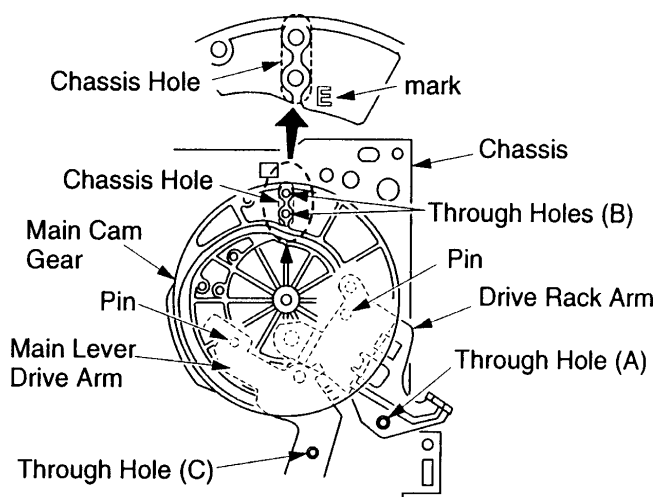

Fig. 7 - Main Cam Gear/Drive Rack Arm Alignment Procedure
Main Cam Gear/Drive Rack Arm Alignment Procedure (Fig. 7)
1. Confirm that hole (C) on the main lever drive arm is aligned with the through hole (C) on the chassis as shown in Fig. 7.
2. Install the drive rack arm so that hole (A) is aligned with the through hole (A) on the chassis.
3. Install the main cam gear so that the two (2) holes (B) with the "E" mark beside them are aligned with the through hole (B) on the chassis. The "E" mark indicates eject position.